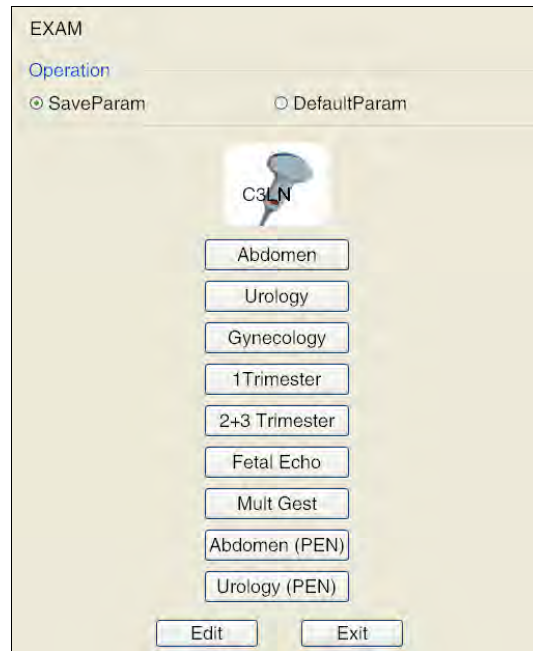

Figure 30: Examination settings
**Examination Setup** allows users to set up the imaging parameters of different exam types and to create new exam types. Click on **Setup** on the control panel to open the **SETUP** screen, then click on **Examination Setup** to open the **EXAM** screen, as shown in Figure 30. Models of the connected probes are displayed in the screen, with all exam types supported by them listed below the corresponding probes. There are two options for selection, **Operation**, **SaveParam** and **DefaultParam**.